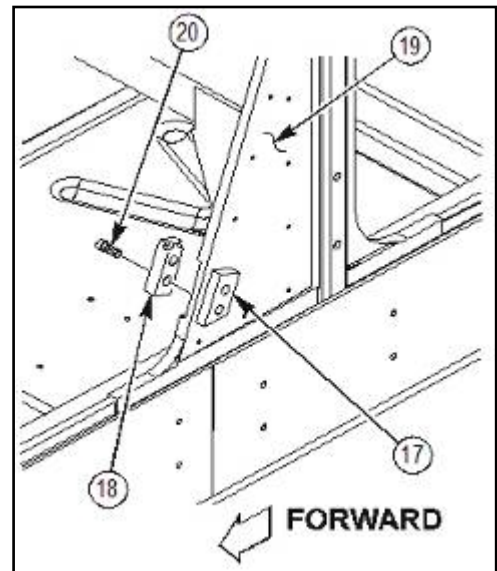

Figure 5b.
I. Remove two screws (20), front lower ramp block (18), and front lower ramp block spacer (17) from B-pillar sail panel (19) as shown in figure 5b. Repeat procedure for opposite side of vehicle. Discard all parts.